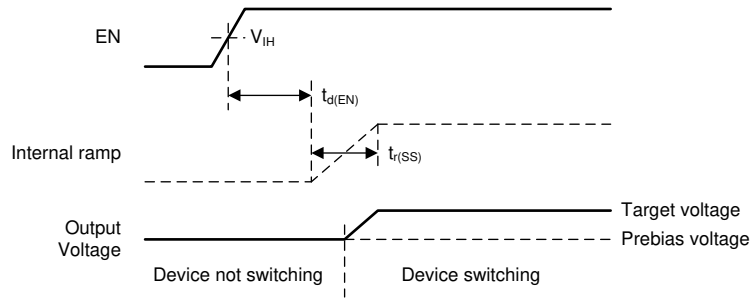

図 6-8. Start-Up Behavior into Prebiased (Low) Output
- If the prebias voltage is *lower* than the target voltage, the device does not start switching until the ramping output voltage is greater than the prebias voltage (see Figure 6-8).